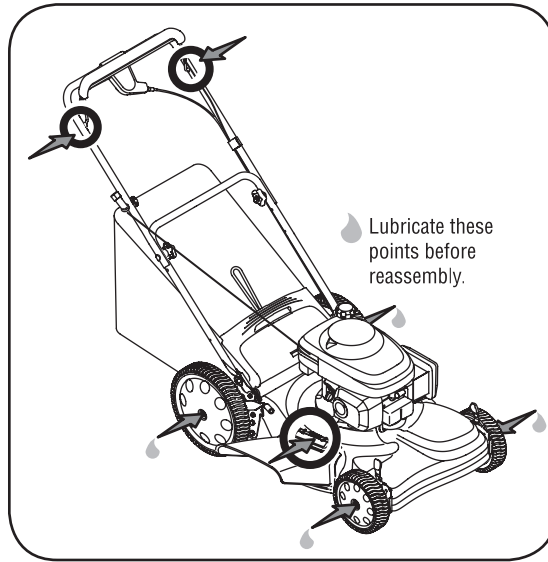

Figure 11
1. Lubricate the pivot points on the blade control handle at least once a season with light oil. The blade control must operate freely in both directions. See Figure 11.
3. Lubricate the torsion spring and pivot point periodically with light oil to prevent rust. See Figure 11.